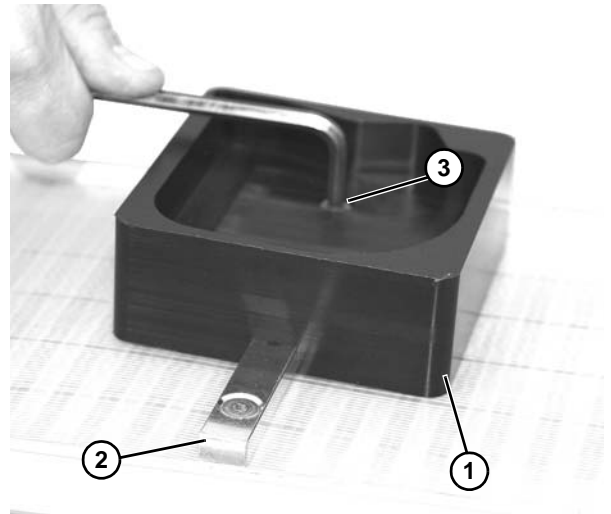

Figure 14
5. Install pallet (**Figure 14, item 1**) onto belt fixture (**Figure 14, item 2**). Attach with M6 screw(s) (**Figure 14, item 3**). Tighten to 60 in-lb (7 Nm).